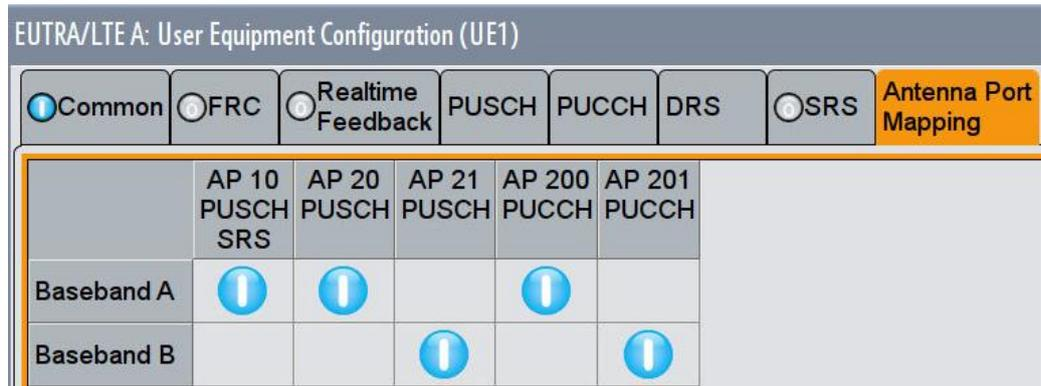

Fig. 3-156: The antenna port mapping. The PUCCH AP200 is generated by BB A, the AP201 by BB B
5. Check the antenna port mapping (Fig. 3-156)